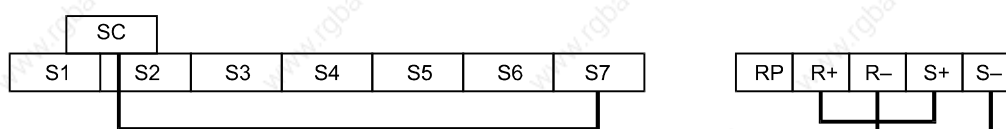

Fig 6.74 Communication Terminals Wiring for Self-Diagnosis
3. Perform the wiring according to Fig 6.74.